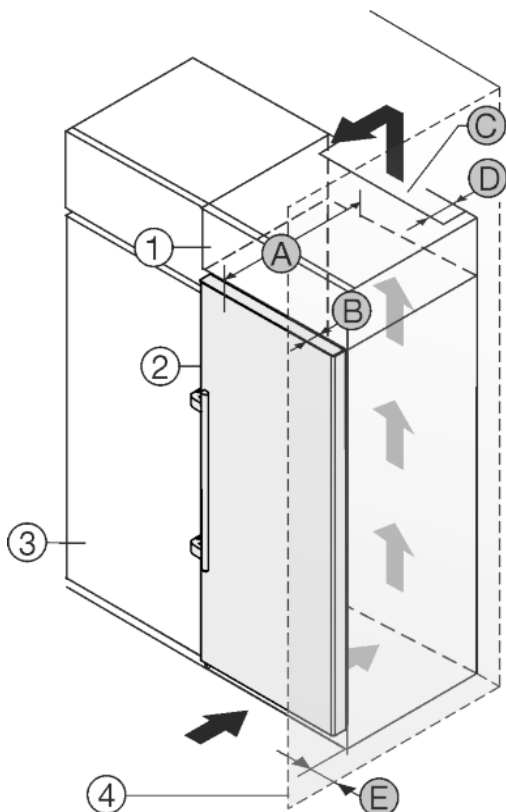

Fig. 19
The appliance can be built into kitchen units. A top cupboard Fig. 19 (2) can be added above the appliance in order to bring the appliance Fig. 19 (1) up to the height of the fitted kitchen units.
The appliance can be installed right next to the kitchen cabinet Fig. 19 (3). The appliance must stick out by the depth Fig. 19 (B) from the front of the cabinet so that the doors can be opened fully. The appliance may protrude further depending on the depth of the kitchen cabinets and whether wall spacers are used.
- There must be a ventilation shaft with the depth Fig. 19 (D) at the back of the top cupboard over the entire width of the cupboard.
- The ventilation shaft Fig. 19 (C) must be observed under the ceiling.
If the appliance is installed with the hinges next to a wall Fig. 19 (4) the distance Fig. 19 (E) between the appliance and the wall must be observed. This is how far the handle protrudes when the door is open.